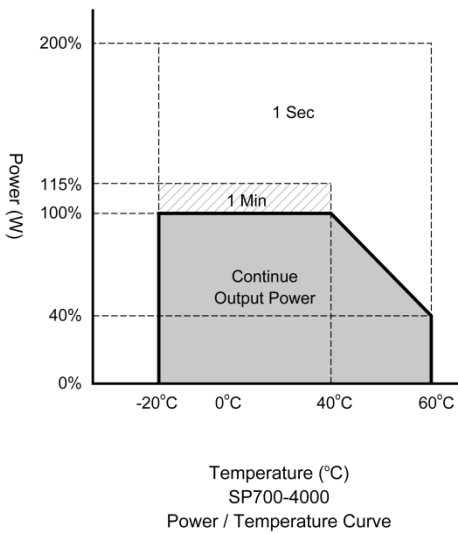

Figure 2. Output power vs. temperature
- ③ Operating temperature : Please refer to Figure 2